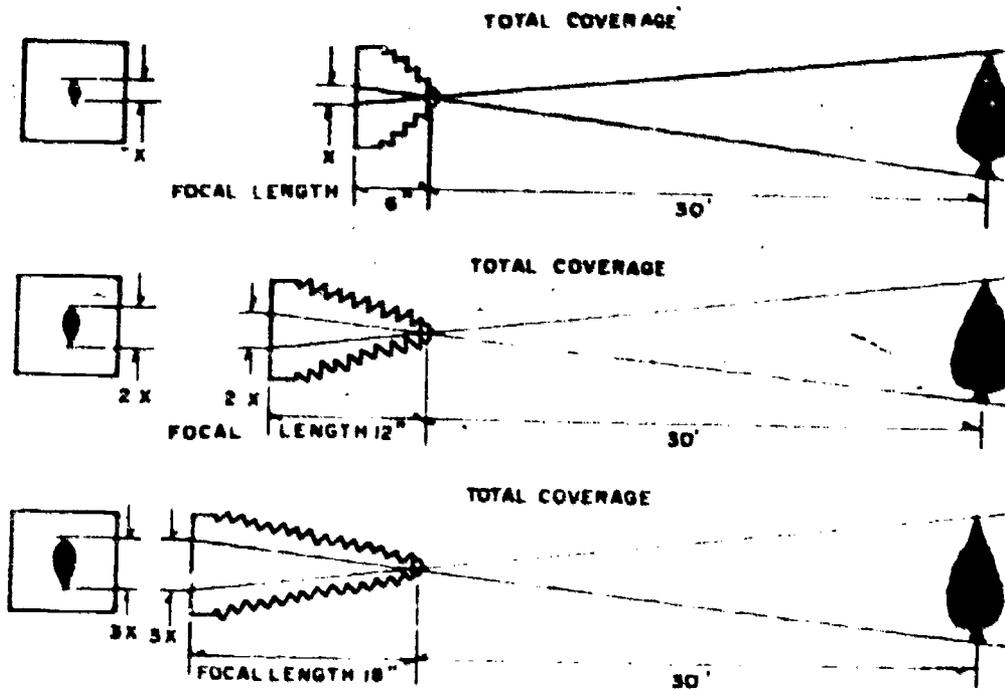

Figure 4-8. Image Size Related to Focal Length
Two factors directly related to focal length are (1) image size and (2) subject coverage. These two factors vary inversely; i.e., image size would increase and subject coverage would decrease as the focal length is increased. Conversely, when the focal length is decreased, the image size is decreased and the subject coverage is increased. Figure 4-8 illustrates this.